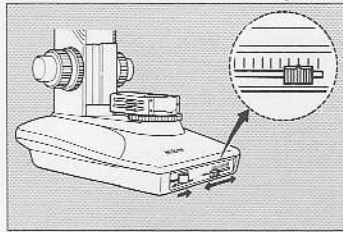

Fig.3-3
- 3) Turn on the main switch to light the lamp. Slide the brightness adjuster to meet with the 3rd line from the right. (Fig. 3-3).